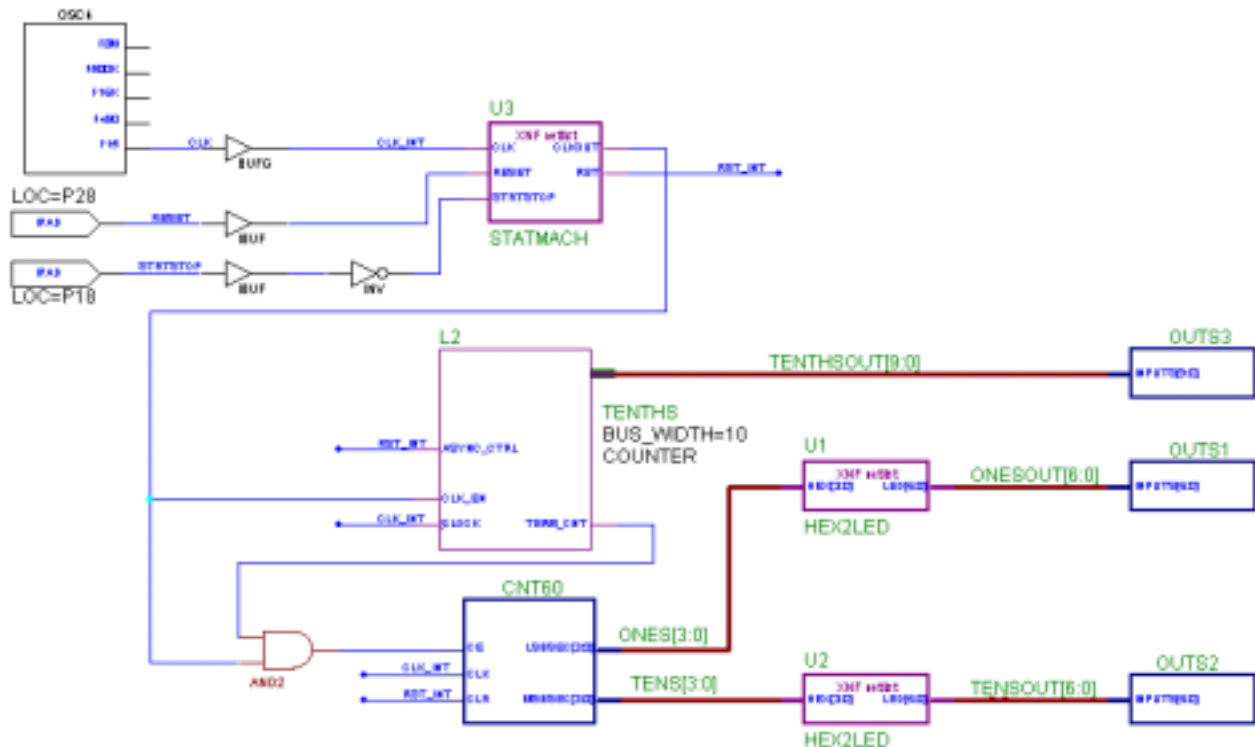

Figure 1
You will notice a partially completed schematic. We are going to develop each of the blocks so that we finish with a design that looks like **Figure 1**, below:
- 18) Open the **Symbols toolbox**, find the **HEX2LED** macro, and add two instances of the macro to the schematic as shown in the completed schematic diagram in **Figure 1**. Connect the busses directly using the **Draw busses** icon.
- 40) You still need to connect the 2 output lines. **RST_INT** connects to the **RST** output and the unnamed net connects to the **CLKOUT** output, as shown in **Figure 1**.
- 41) We still need to create the counter in the center of **Figure 1**. Although we could use any of several existing counter macros, a custom counter will provide exactly what we need for this particular design. We want a counter with asynchronous control, terminal count, and 10 one-hot style outputs. We'll use **LogiBLOX** to create this.